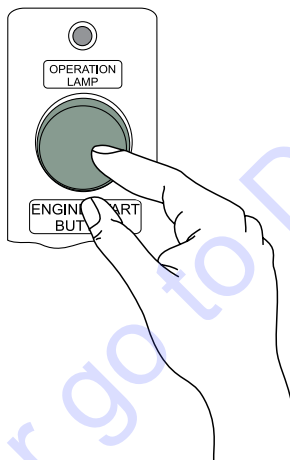

Figure 26. Engine Start Button
8. Next, press the **GREEN** engine start button (Figure 26) only once. Continuous pressing of the button is not necessary. The engine will automatically start once the count down sequence has been completed.